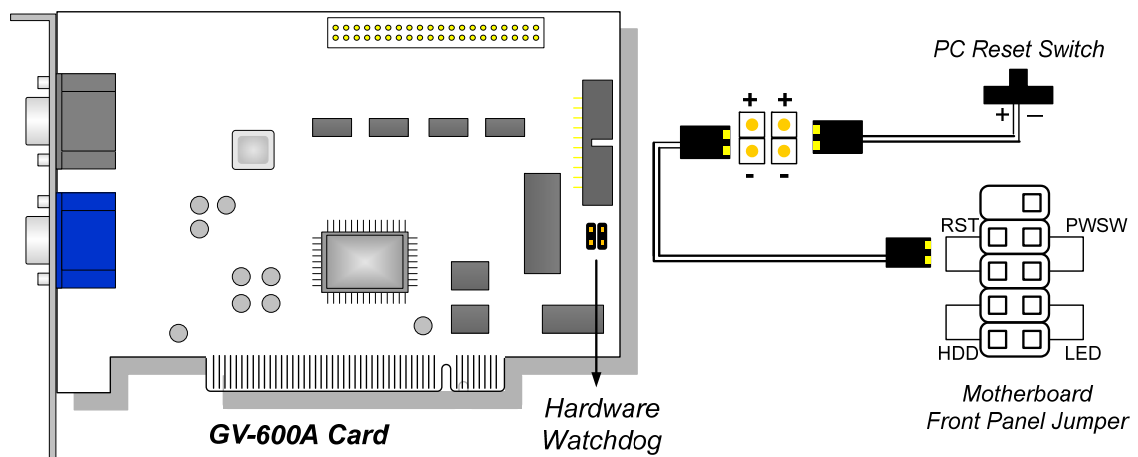

Figure 1-32
- **Hardware Watchdog Connection:** Connect the supplied Hardware Watchdog Jump Wire to the Master Card only (Figure 1-32).